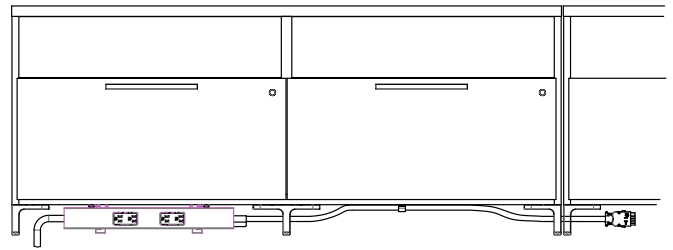

Fig. 5
7. Carefully rotate unit back onto its feet and move into location. **(Fig. 5)**